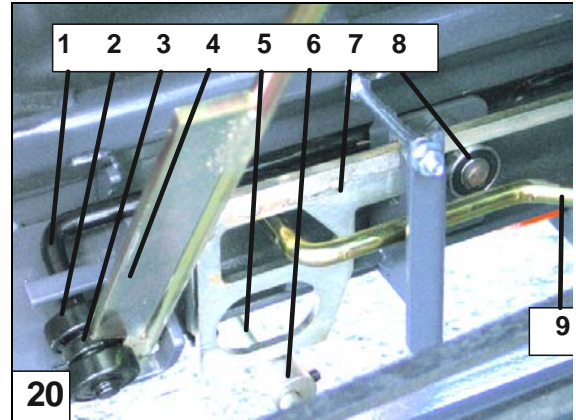
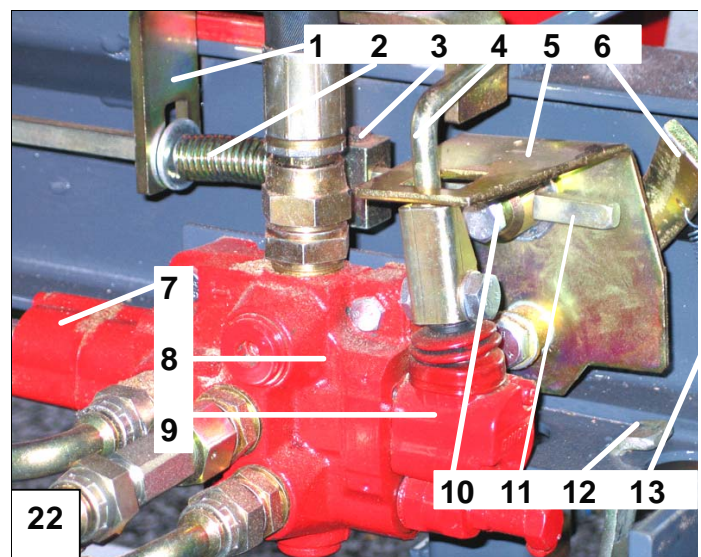

Fig. 20. Parts of the launching device
Fig. 22. Parts of the hydraulic valve
6.2 Parts of the launch device (Figure 20)
2. Sensor rod 5 (Figure 20) lifts up launch rod 7 by means of the adjustment sleeve, which is released from behind fixed limiter bearing 8.
- The manually operated launch lever affects the control lever 9 for manual start (Fig. 20), which depresses the bevel surface of the launch rod 7. This makes the launch rod rise from behind the limiter bearing 8, starting the splitting operation.
6.5 Parts of the hydraulic valve (Figure 22)
- Lifting up the protective net for the splitting chute shifts the locking rod 1 (Figure 20) by means of the safety wedge 4 into a position where the locking lever 6 (Figure 22) impedes the movement of the launch rod 4.